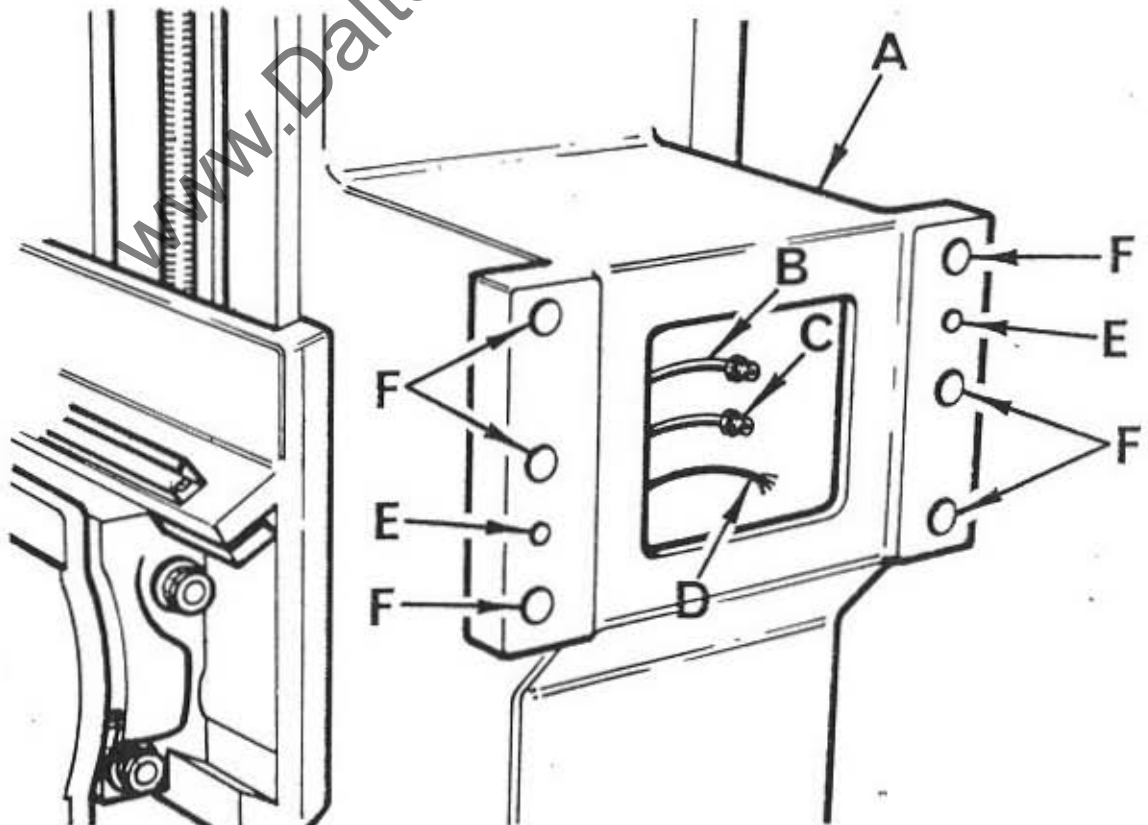

Fig 2
6. Place sling around chain beam for adjustable column then lift into a position near to the mounting bracket "A" in FIG 2 on the adjustable column.